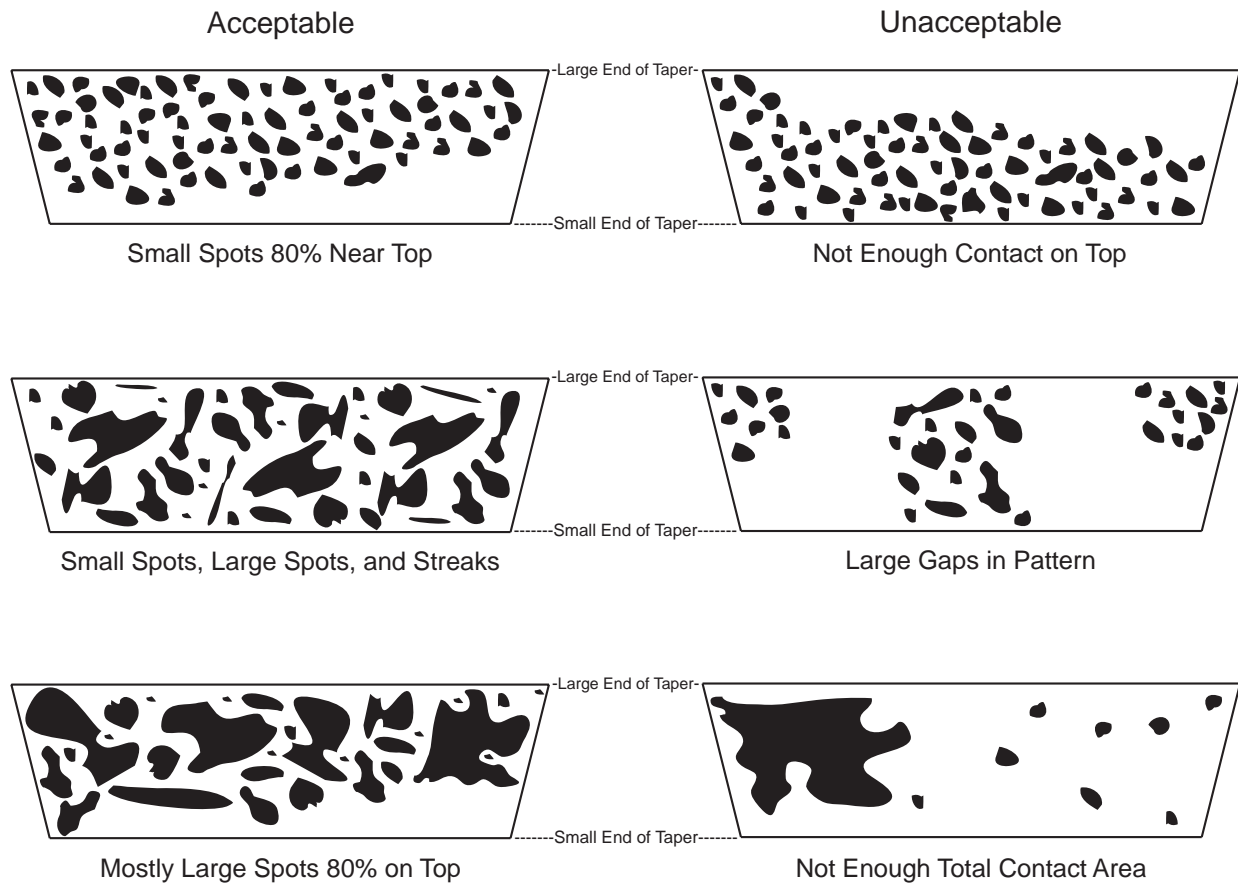

Figure 103. Dye Contact Pattern Samples
6. Evaluate the contact pattern on both tapers. See Figure 103 for guidance on acceptable contact patterns. The surfaces should match approximately 80% of the total tapered area.
Note: It is important that the contact should be biased toward the larger diameter end of both tapers. If contact is predominant at the small end, the shaft may be overstressed locally and may fail. Contact Twin Disc if the taper contact pattern is not in accordance with Figure 103.